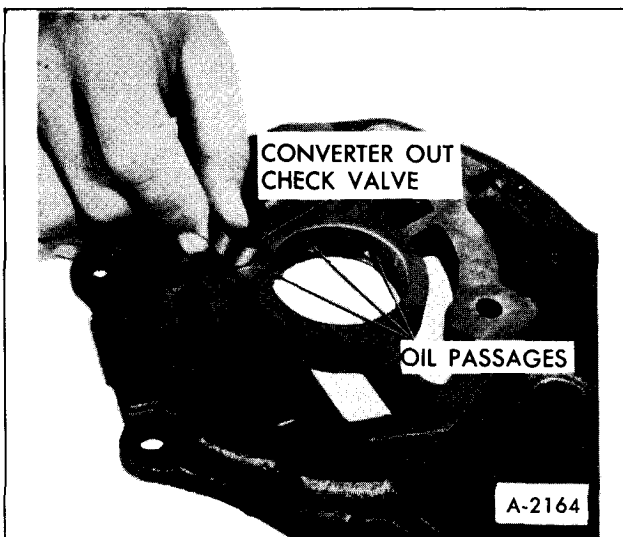

Figure 47—Converter Out Check Valve
d. Remove converter out check valve, Figure 47.